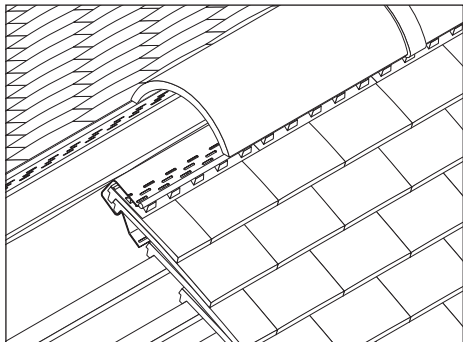

Fig. 15 – Insert two top courses of tile into batten section
- 2 Insert two top courses of tiles (eaves/standard tile) into batten section together with plain /modern ventilated filler units on top (Fig. 15).